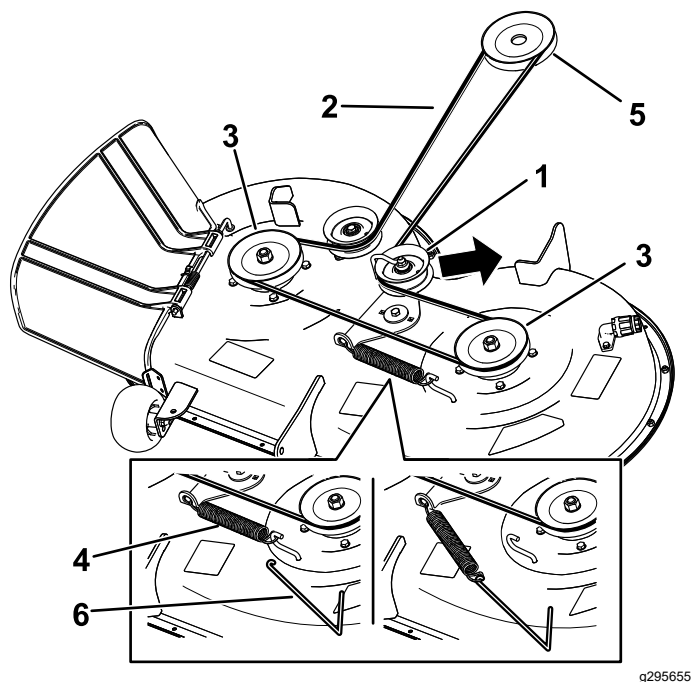

Figure 50
- Using a spring-removal tool (Toro Part No. 92-5771), remove the idler spring from the deck hook to remove tension on the idler pulley, and roll the belt off the pulleys (Figure 50).
- Route the new belt around the engine pulley and mower pulleys (Figure 50).
- Using a spring-removal tool (Toro Part No. 92-5771), install the idler spring over the deck hook and place tension on the idler pulley and the mower belt (Figure 50).